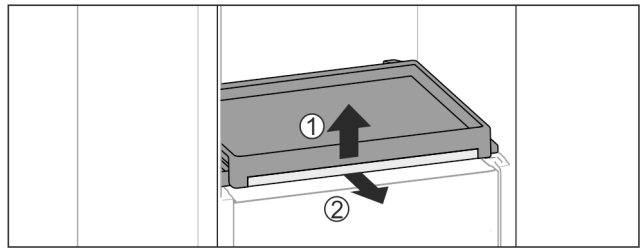

Fig. 42
- ▶ To remove the pull-out board with glass panel: Gently lift the glass panel at the front Fig. 42 (1) and pull out to the front Fig. 42 (2).